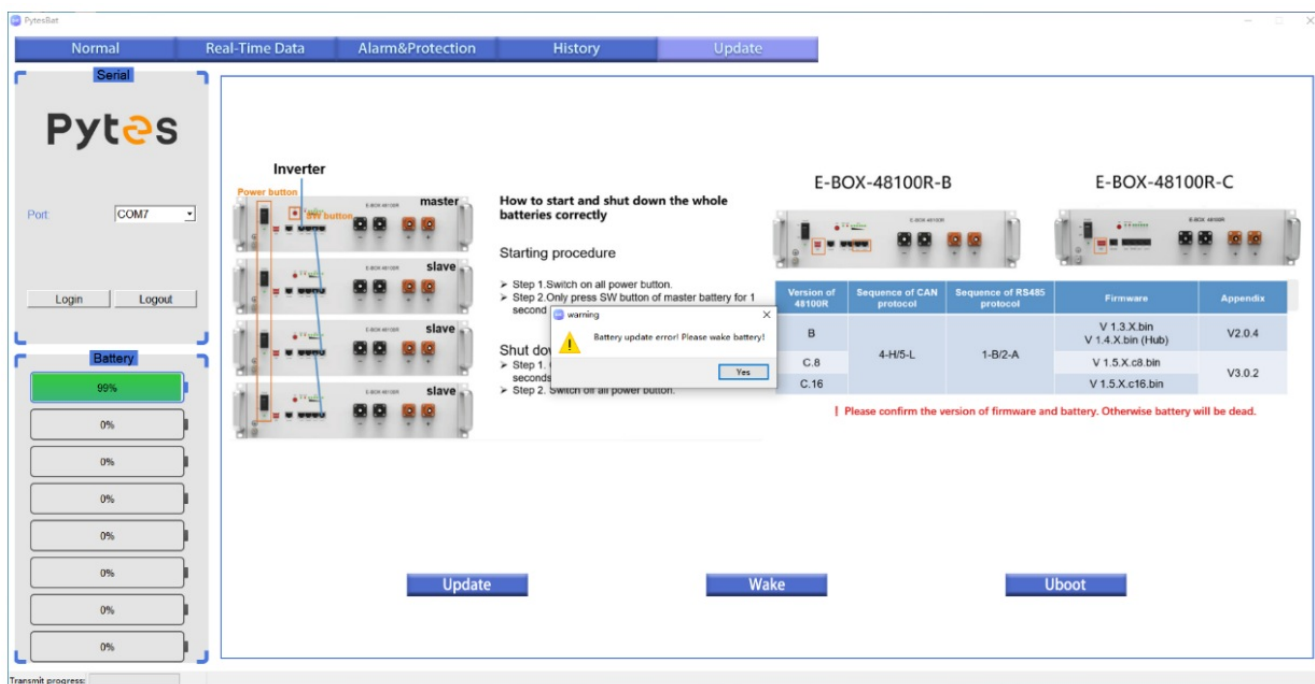

Figure 11
11. Wake procedure (Figure 11)